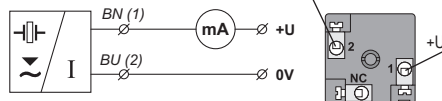
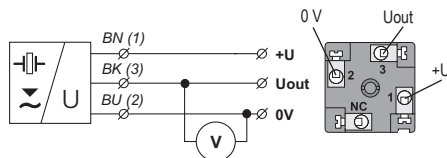
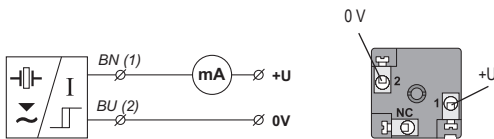
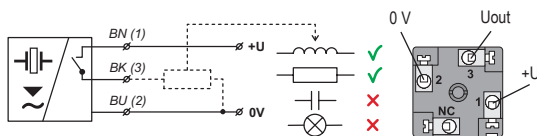

Fig. 15: Connection diagram of the ULM level meter (variant -I) and inside view of the connector
Fig. 16: Connection diagram of the ULM level meter (variant -U) and inside view of the connector
Fig. 17: Connection diagram of the ULS sensor with S type output (two-state current switch 4 mA / 20 mA)
Fig. 18: Connection diagram of the ULS sensor with P type output (PNP) with an open collector
The ULM level meter or ULS level sensor with a G type cable gland are connected to processing (display) units by means of a cable with an outer diameter of 6 to 8 mm (recommended wire cross-section 0.5 to 0.75 mm²), via a detachable ISO connector with inner screw terminals, which is part of the delivery. The connection diagram and the inner view of the connector are shown in Fig.15 and 16. Non-detachable connector IP67 with PVC cable 5 m long can be supplied as an extra option.
- Connect the cable wires to the screw terminals as shown in Fig. 15 (current output 4-20 mA), Fig. 16 (voltage output 0-10 V), Fig. 17 (S type output) or Fig. 18 (P) type output. Tighten the terminals firmly.